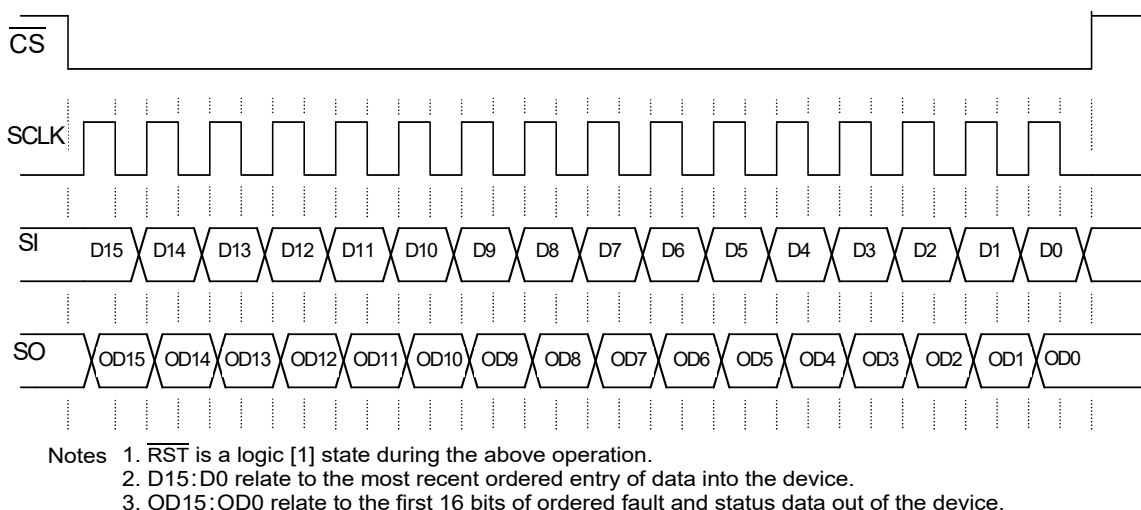

Figure 10. Single 16-bit word SPI communication
The SCLK pin clocks the internal shift registers of the 10XS3435 device. The serial input (SI) pin accepts data into the input shift register on the falling edge of the SCLK signal while the serial output (SO) pin shifts data information out of the SO line driver on the rising edge of the SCLK signal. It is important the SCLK pin be in a logic low state whenever $\overline{CS}$ makes any transition. For this reason, it is recommended the SCLK pin be in a logic [0] whenever the device is not accessed ($\overline{CS}$ logic [1] state). SCLK has an active internal pull-down. When $\overline{CS}$ is logic [1], signals at the SCLK and SI pins are ignored and SO is tri-stated (high-impedance) (see Figure 10, page 28). SCLK input has an active internal pull-down, I_{DWN} .
6.2.8 Serial input (SI)